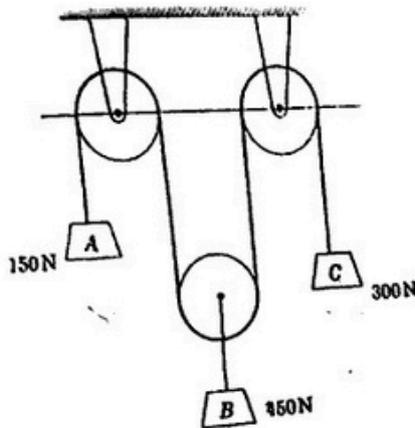

Fig.7.
- Q6 Three weights A, B and C are connected as shown in Fig.7. Determine the acceleration of each weight and tension in the string. Given, $W_A = 150\text{ N}$, $W_B = 450\text{ N}$, $W_C = 300\text{ N}$. (10)